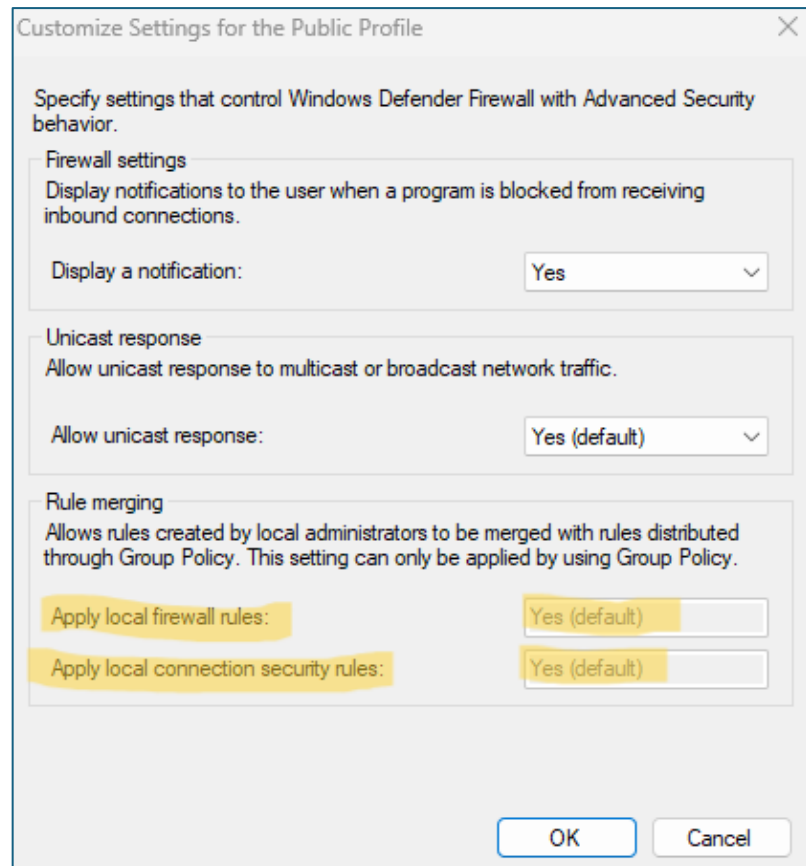

Figure 56 Customized Public Profile settings showing local firewall and connection security rules enabled.
- b. Ensure that local firewall rules are allowed as shown in Figure 56. If firewall settings are controlled by another source (such as Group Policy), the rules must be changed there instead. In this case, contact the network administrator to allow Talon-2 communication through the firewall.